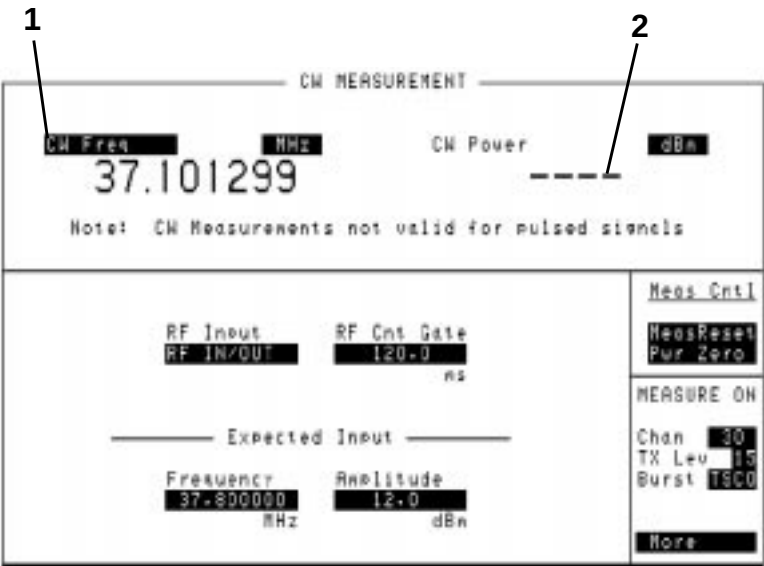

Figure 2-15 CW Measurements
The CW Frequency field (1), see Figure 2-15 on page 2-28, displays the carrier frequency of the signal and CW Power (2) shows the power of the carrier signal. It is also possible to display the difference between the measured frequency and the value selected by choosing **CWFreqErr** from field 1.